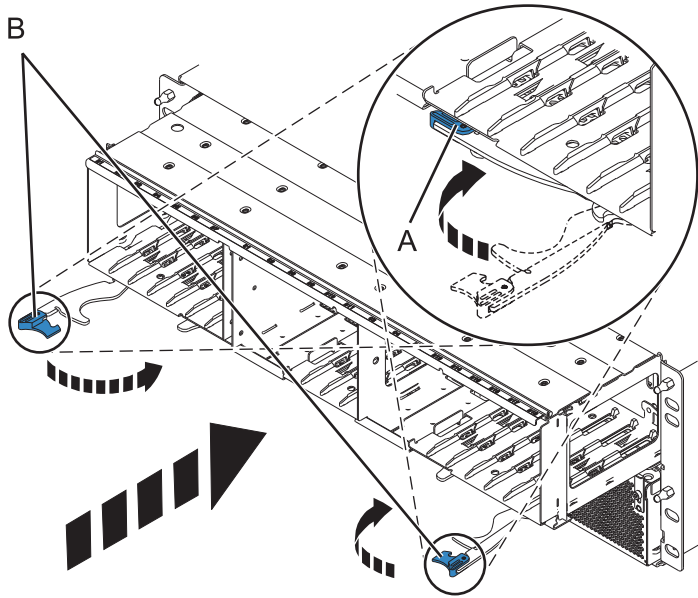
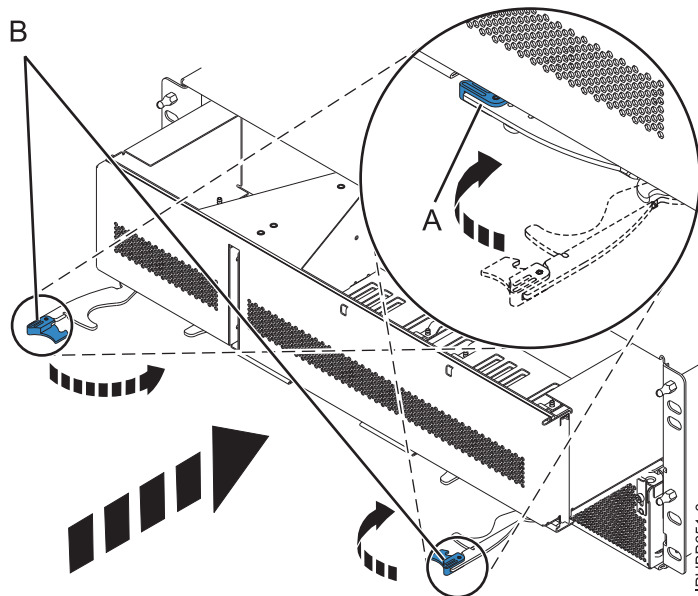

Figure 5. Installing the disk drive backplane in a rack-mounted model
Figure 6. Installing the backplane filler in a rack-mounted model
7. Using your hand to support the bottom of the disk drive backplane or backplane filler, slide it into the expansion unit as shown in Figure 5 on page 7 or Figure 6 on page 7.
8. Secure the disk drive backplane in place by moving the locking tabs from the open position (B) to the locked position (A).